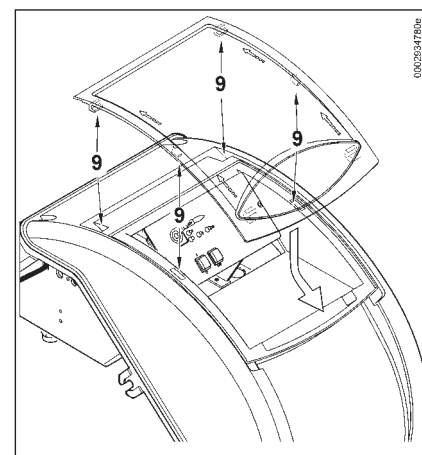

Fig. 5
- To secure the transparent door on the panel properly, proceed as indicated in figure 5: position the hooks at their hooking points (9), slide the door in the direction indicated by the arrow until you hear a click that ensures its seal.